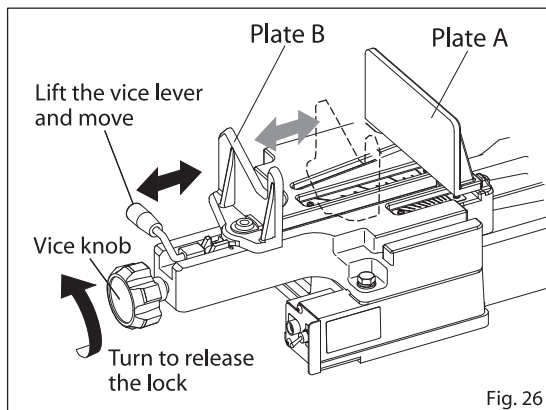

Fig. 26
## XB180WA Flat Vice (Fig. 26~Fig. 31)
How to move Plate B (Fig. 26)
- (1) Turn the Vice knob anti-clockwise to release the lock. (Fig. 26)
- (2) If you pull the vice lever up and move it backwards and forwards, Plate B will move likewise at the same time. (Fig. 26)
- (1) Place the workpiece in the vice carefully aligning it with Plate A. (Fig. 26)